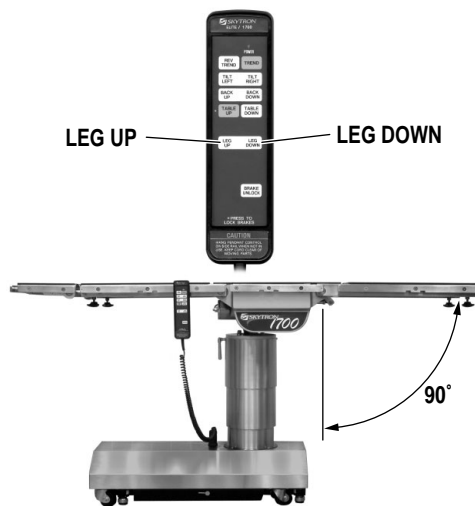

Figure 2-8. Leg Section Positioning
f. Leg Section. To lower the leg section press the LEG DOWN button (figure 2-8). The leg section will go down to 90° below horizontal. To raise the leg section, press the LEG UP button. The leg section will go up to horizontal.